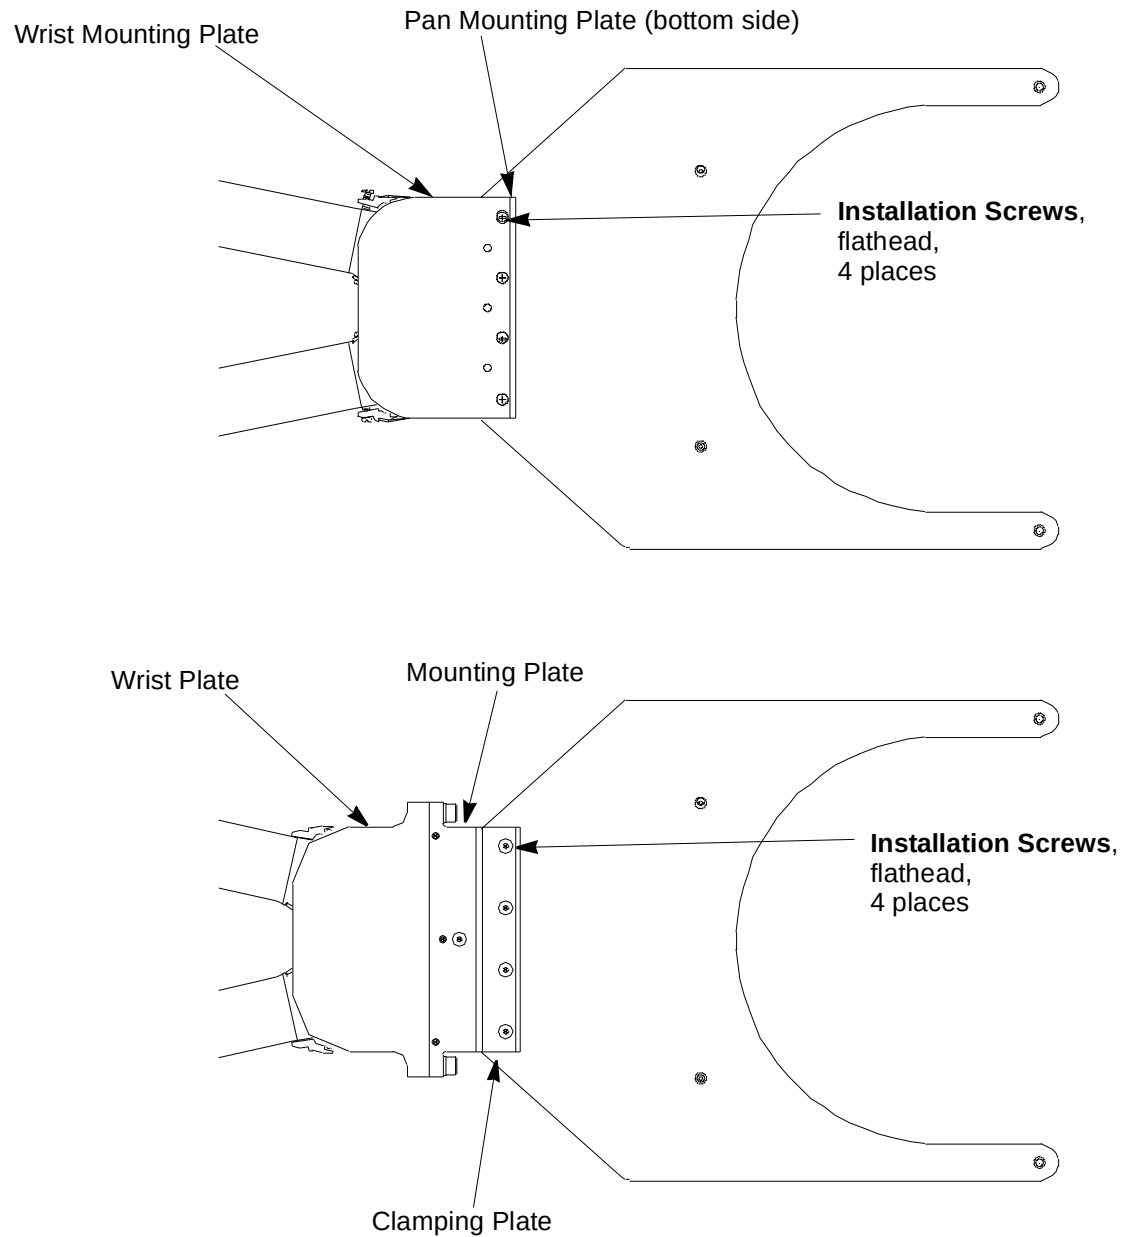

Figure 9-1: End Effector Mounting Hardware
1. Carefully slide the end effector between the mounting plate and clamping plate. Refer to **Figure 9-1** shows both types of End Effector Installation available with the MagnaTran 7.